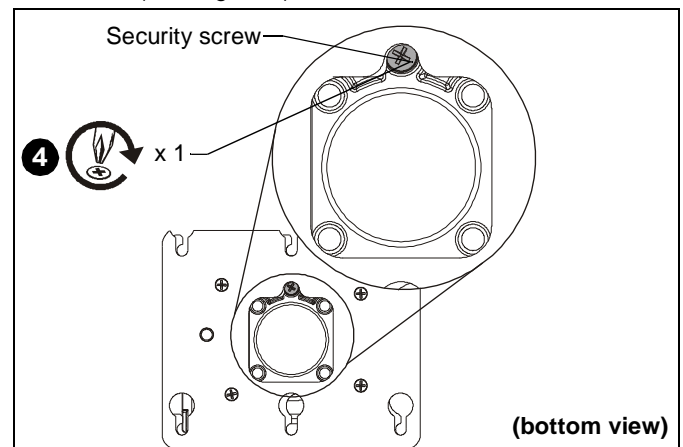

Figure 3
4. Turn security screw (access from bottom of projector mount) (See Figure 3) using a Phillips screwdriver until set screw cannot be seen through set screw access hole in projector mount. (See Figure 3)